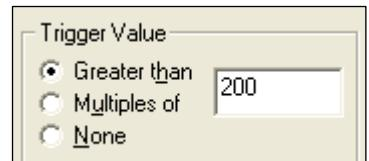

Figure 388
2. Set the trigger type to 'Greater Than' (see Figure 388).